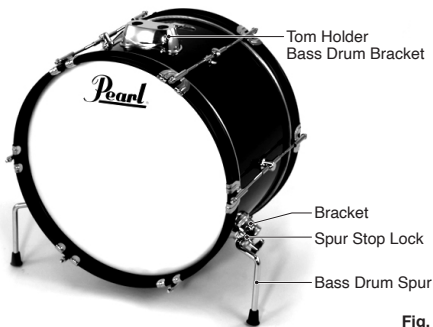

Fig. 2
4. Position the drum upright and install the bass drum spurs as shown with the front of the drum about an inch off the floor. Check to ensure the spur stop locks are positioned correctly into the corresponding bracket and tighten to secure. Double-check that all wing nuts are tight, then tune to the desired pitch (Fig.2).